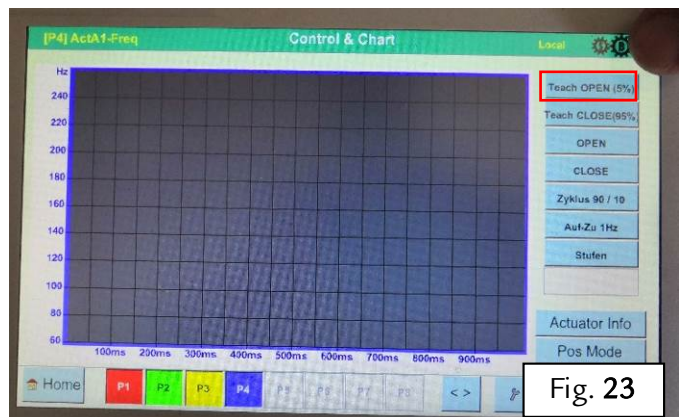

Fig. 23
- Press “Teach open” to launch the actuator aperture self-acquisition process - Fig. 23